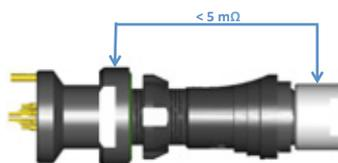

Figure 1
4) Measurement points on figure 1